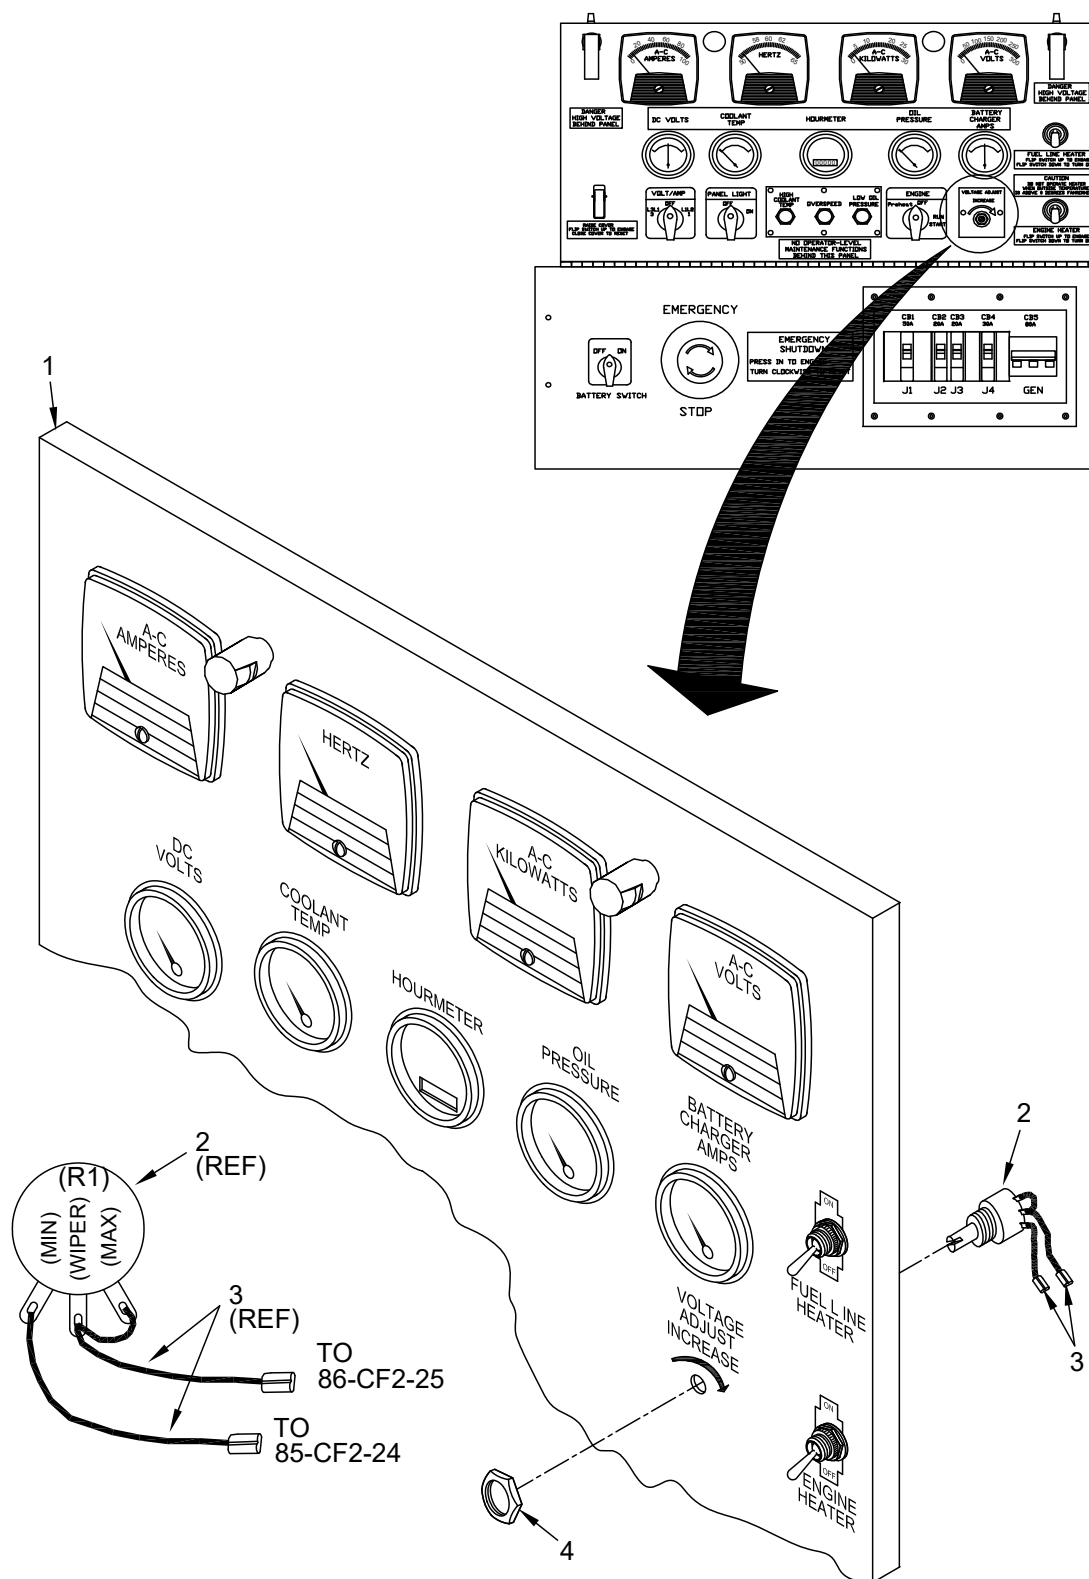

Figure 1. Potentiometer Removal/Replacement.
3. Open door and control panel (Figure 1, Item 1), allow control panel (Figure 1, Item 1) to drop down and hang from lanyards. Remove any strap-ties securing associated wiring to control panel (Figure 1, Item 1).
4. Mark and disconnect terminals from leads (Figure 1, Item 3) hanging off of potentiometer (Figure 1, Item 2).
5. Remove and retain nut (Figure 1, Item 4) that secures potentiometer (Figure 1, Item 2) to control panel (Figure 1, Item 1).
6. Remove potentiometer (Figure 1, Item 2) from control panel (Figure 1, Item 1).
7. Desolder leads (Figure 1, Item 3) from potentiometer (Figure 1, Item 2). Disconnect leads (Figure 1, Item 3) and set aside.
1. Strip, tin and prep leads (Figure 1, Item 3) for soldering.
2. Place heat shrink over prepared leads (Figure 1, Item 3). Form J-hook with tinned wire.
3. Solder leads (Figure 1, Item 3) to terminals on potentiometer (Figure 1, Item 2) (see Figure 1) and allow to cool.
6. Insert potentiometer (Figure 1, Item 2) into control panel (Figure 1, Item 1) (terminals towards edge of control panel) and secure using nut (Figure 1, Item 4). Secure wiring to control panel (Figure 1, Item 1) using strap-ties.
7. Close control panel (Figure 1, Item 1) and secure.
6. Close control panel (Figure 1, Item 1) and secure.